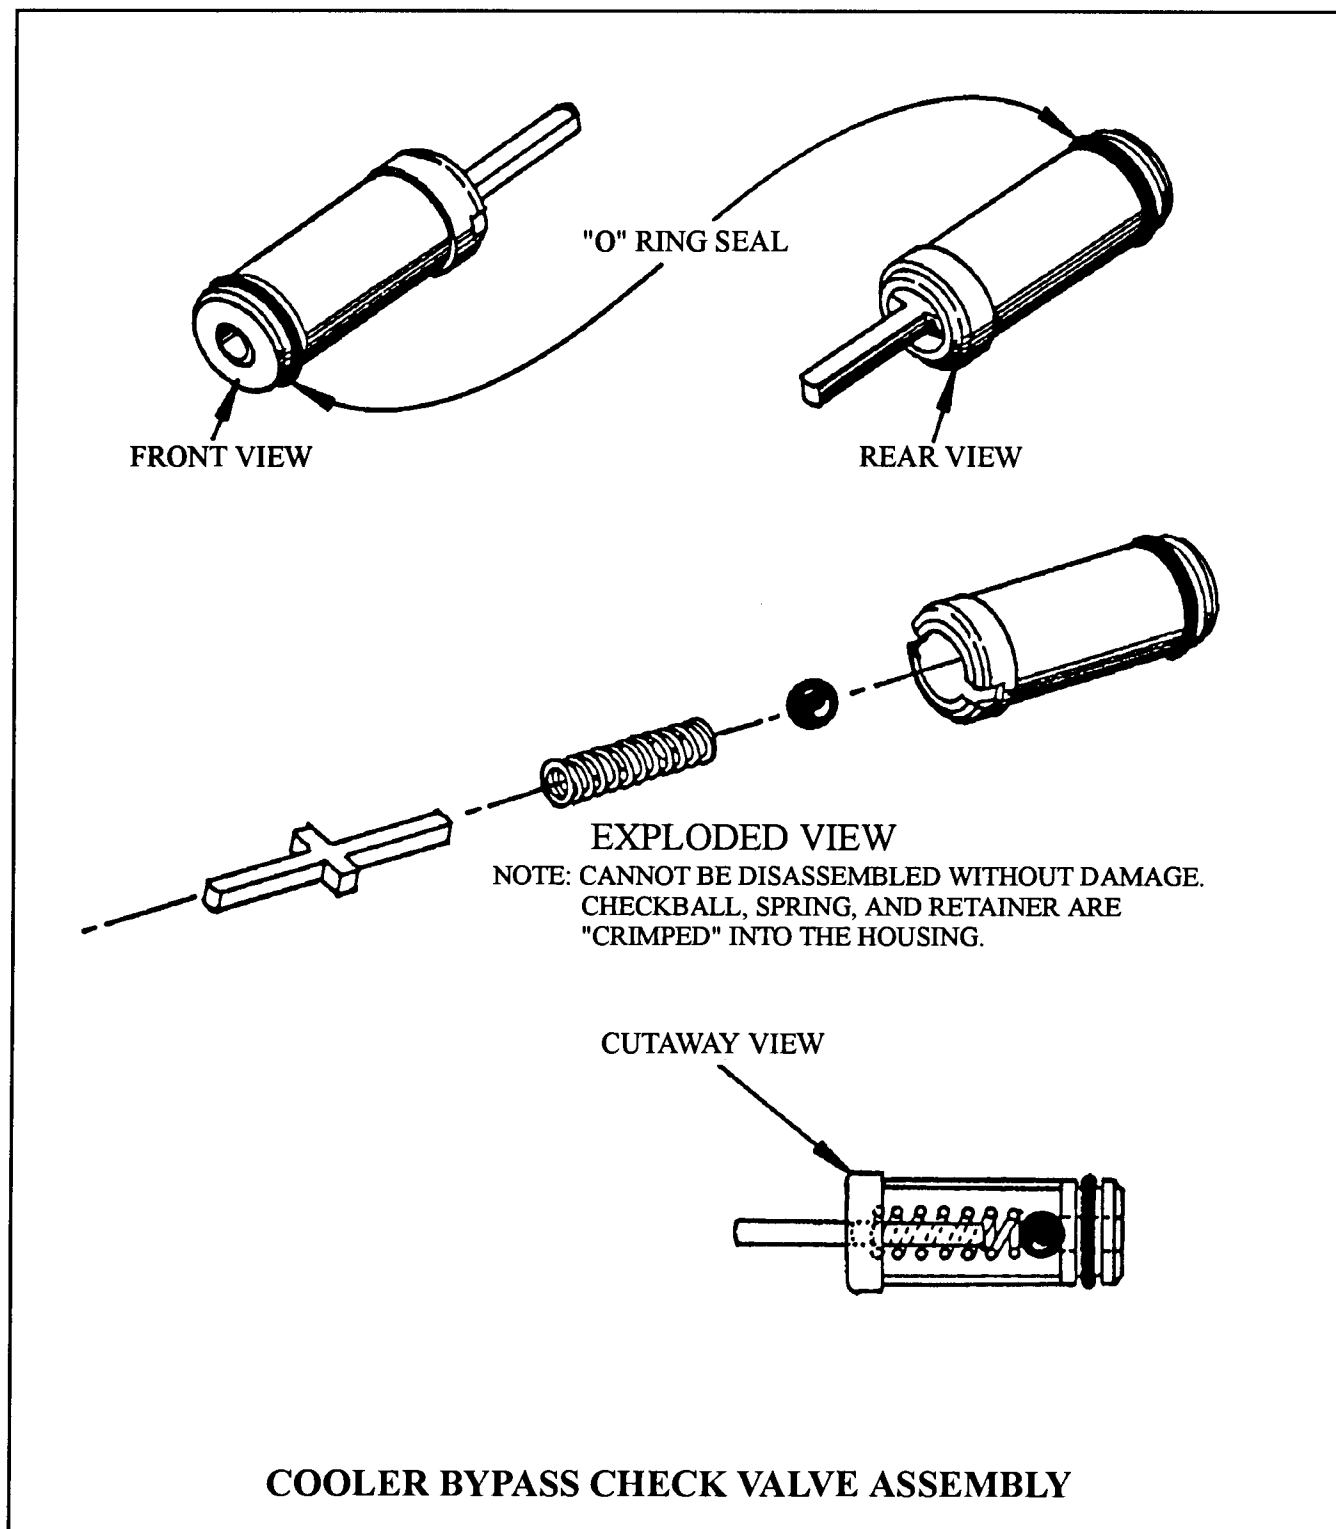
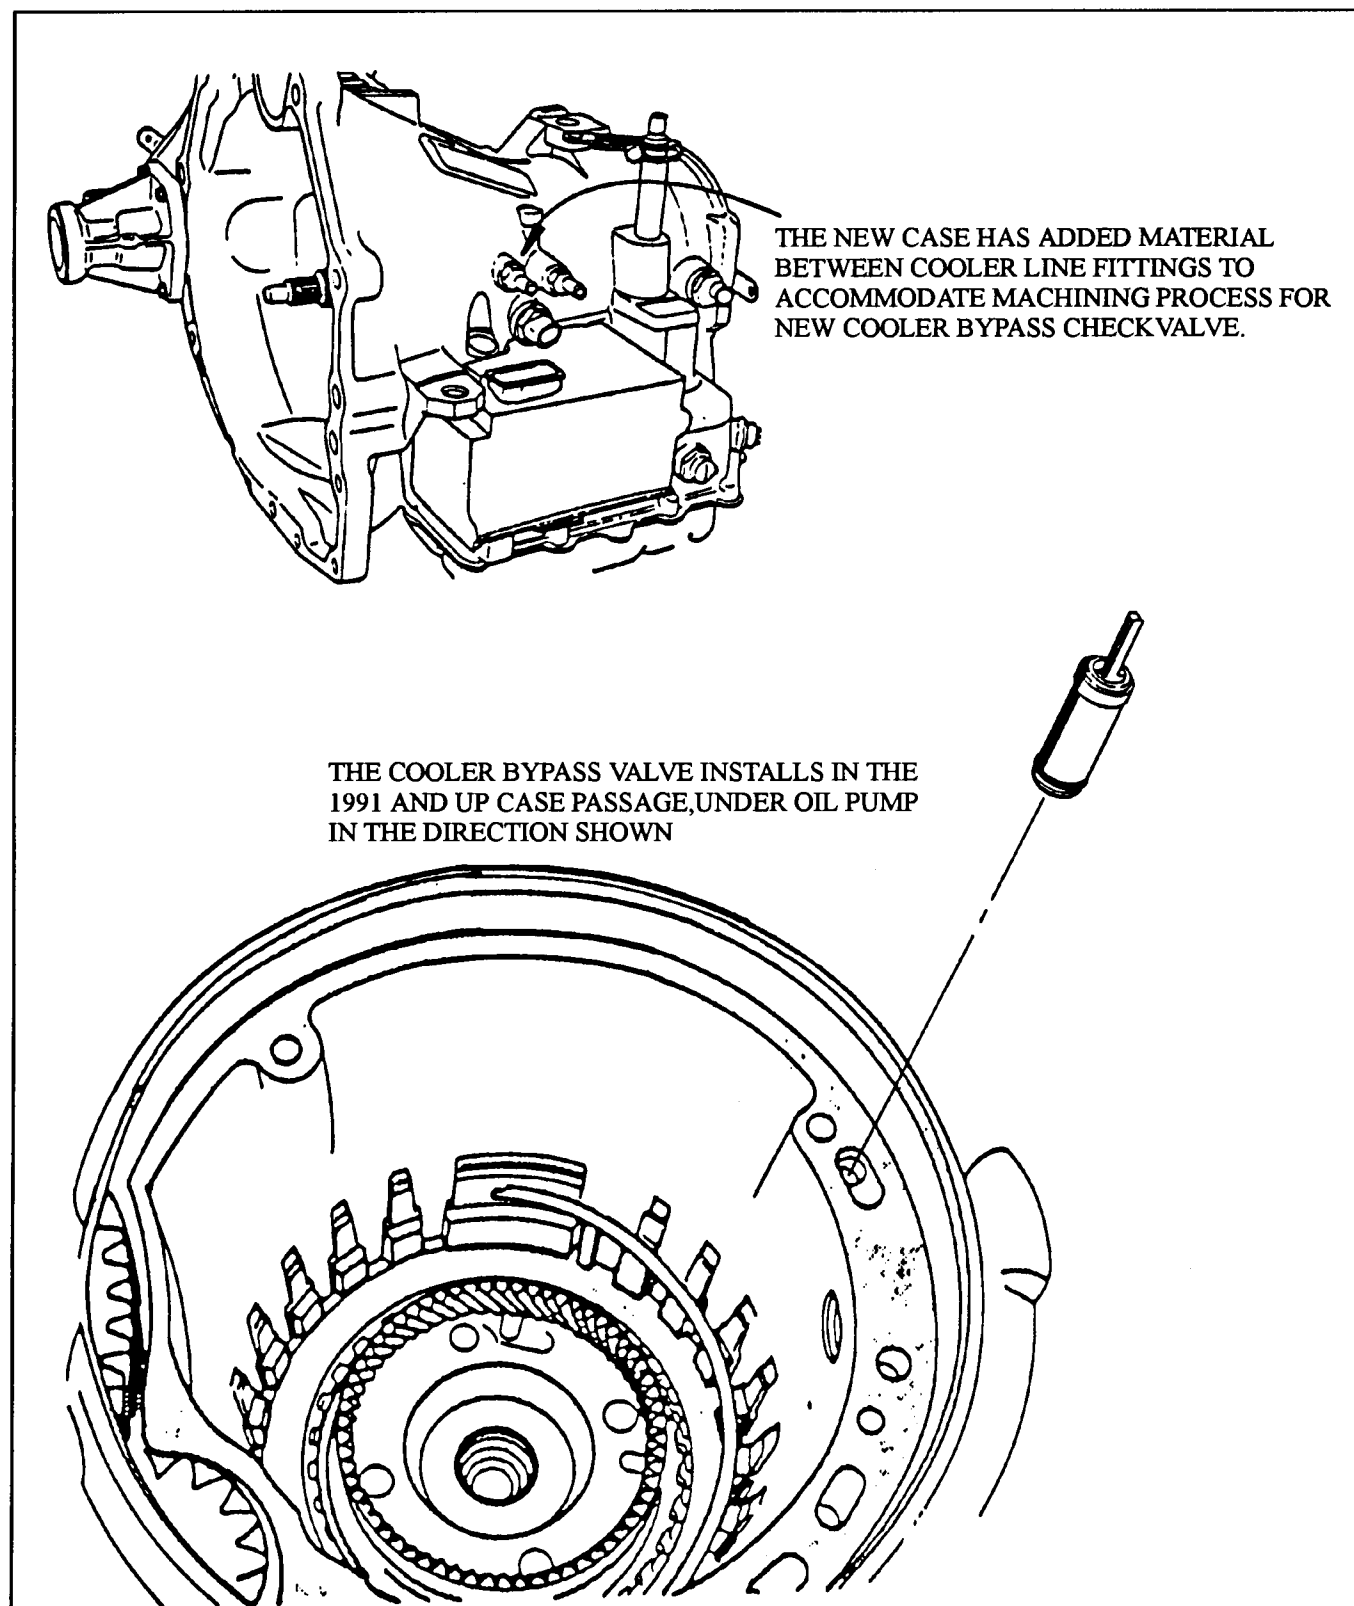

Figure 42
Figure 43
CHANGE: Beginning in 1991 model A604 transaxles, there has been a "Cooler Bypass Check Valve Assembly" added in the transaxle case behind the oil pump. (See Figures 42 and 43).
- (1) **COOLER BYPASS CHECK VALVE** - added into the case cooler passage behind the oil pump (See Figure 43). If cooler oil flow is restricted, or blocked, the new check valve will open, and allow cooler feed oil direct into the lube circuit to prevent transaxle damage. Normal operation is resumed after oil temperature is warm enough to again flow through the cooler. (See Figure 42).
- (2) **TRANSAXLE CASE** - The new case has added material between the two cooler line fittings, to accommodate the machining process needed for the new cooler bypass check valve assembly (See Figure 43).